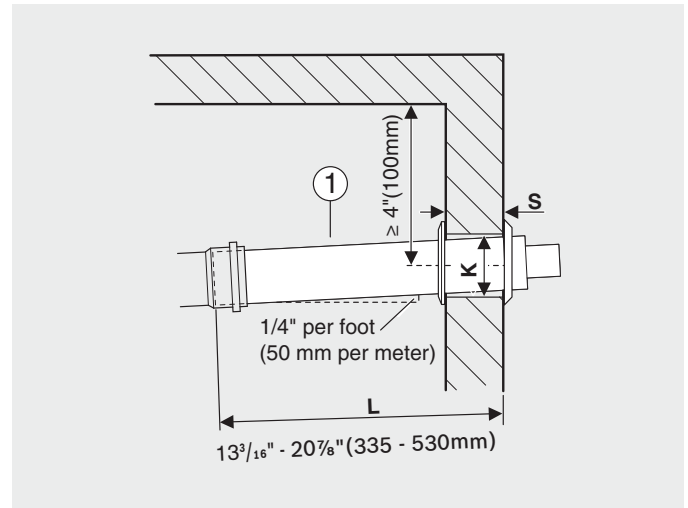

Fig. 6 Penetration through the outside wall
- ▶ Measure the length of the vent terminal assembly (→ Fig. 6, [1]) taking into account the thickness of the outside wall [S] and the distance from the outside wall to the end of the vent pipe [L]. It is recommended to keep at least 4" (100mm) clearance from the ceiling or joists for accessibility reasons.
- ▶ Ensure all components are properly connected and aligned, and that the termination has the proper pitch as shown in Fig. 6.